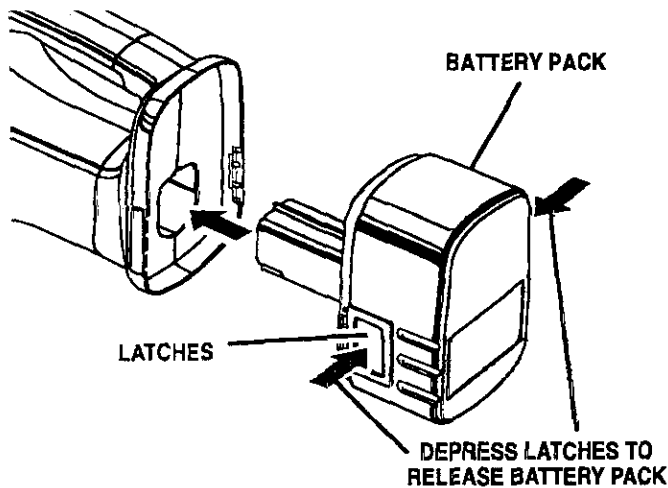

Fig. 4
- Place battery pack in hand vac aligning raised rib on battery pack with groove inside hand vac. See Figure 4.
- Locate latches on side of battery pack and depress to release battery pack from hand vac. See Figure 4.